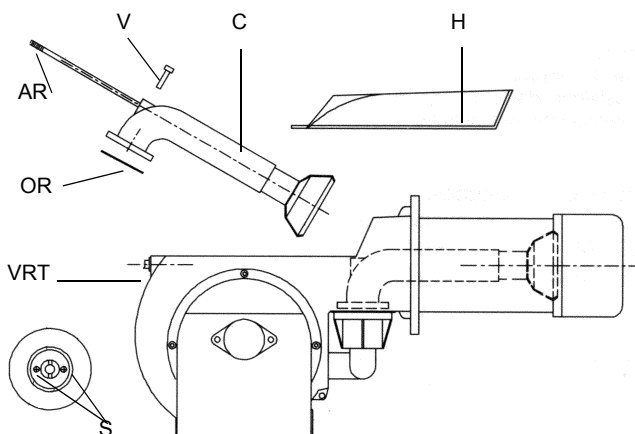

Fig. 26
- Slacken the screws **V** holding the gas manifold **C**, slacken the connectors **B** and remove the complete assembly as shown in Fig. 26.